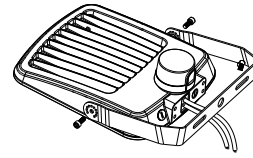

Figure 1
Step 1: First install two big screws. (Figure 1)